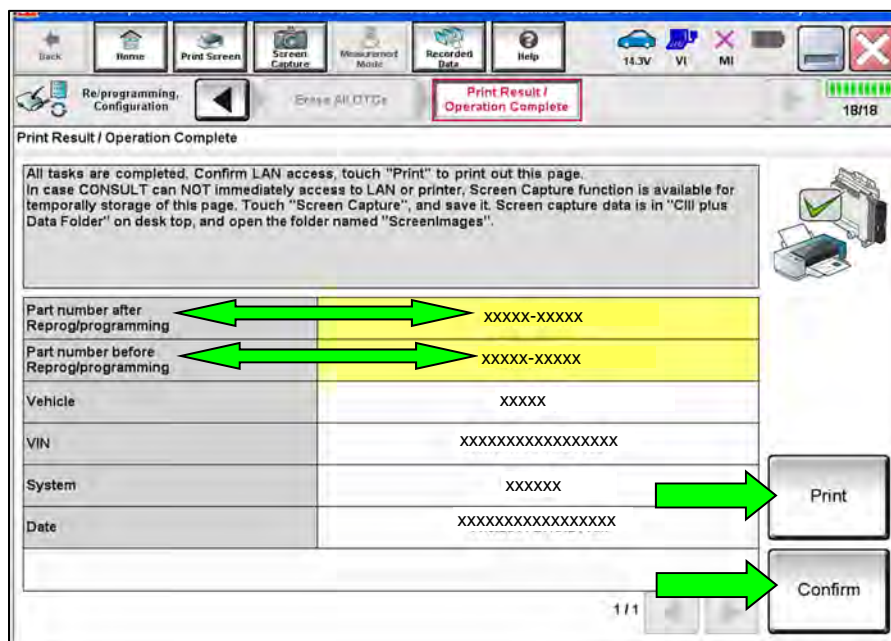

Figure 260
- 262. When the entire reprogramming process is complete, the screen in Figure 260 on page 129 will display.
264. Print a copy of this screen (Figure 260) and attach it to the repair order.